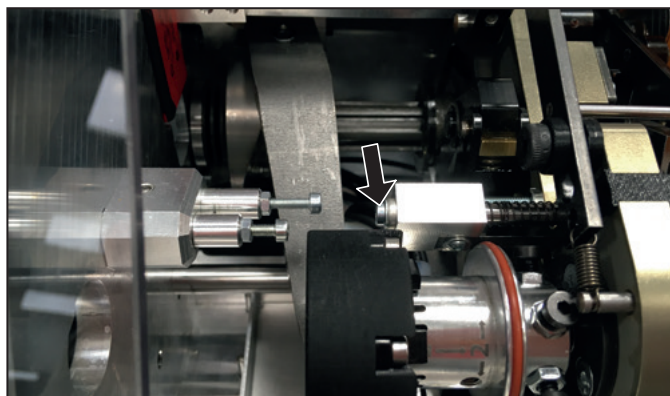

Figure 8.3 Removing the separating blade holder
- Remove the mounting screws on the separating blade holder, see Figure 8.3.